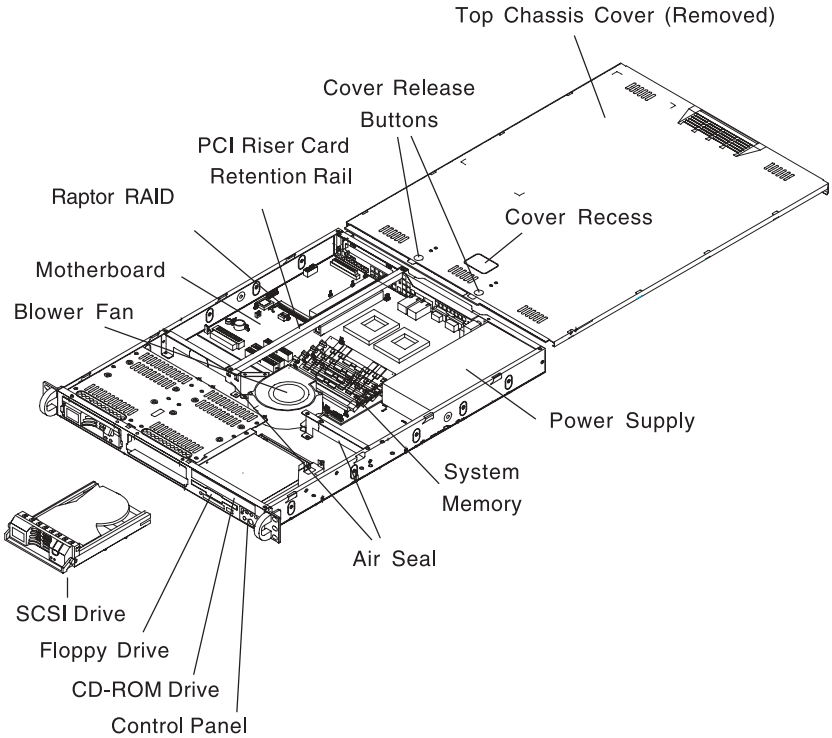

Figure 2-5. Accessing the Inside of the SuperServer 6011H (with one SCSI Drive removed)
1. Access the inside of the 6011H (see Figure 2-5):
1. Accessing the inside of the 6011H (see Figure 2-5):